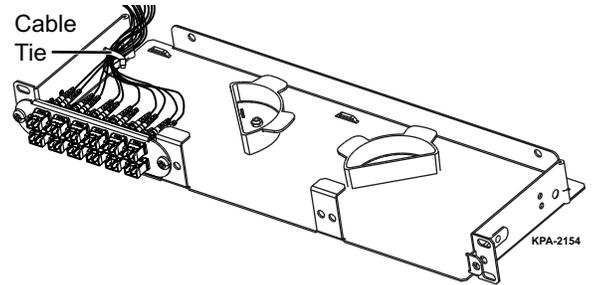

Figure 3 — Install Adapter Panel
Step 2: Install the adapter panel in the opening. Press the plunger fasteners into the holes to secure the panel (Figure 3).